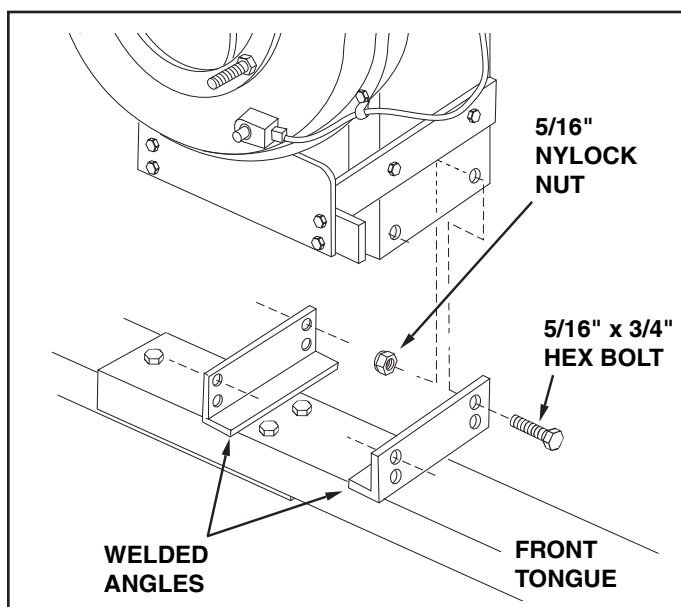

FIGURE 16
- Attach the engine/impeller housing assembly to the **upper** holes in the angles welded to the tongue. Use four 5/16" x 3/4" hex bolts and 5/16" nylock nuts. **Tighten.** See figure 16.